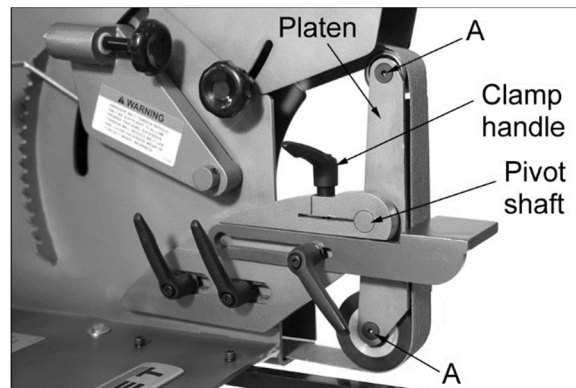

Figure 7-1: installing platen assembly
3. Loosen clamp handle on head casting. See Figure 7-1.
4. Install pivot shaft of platen (or shaft of wheel) all the way into head casting, as shown in Figure 7-1.
Turn one or both screws (A, Figure 7-1) to adjust.